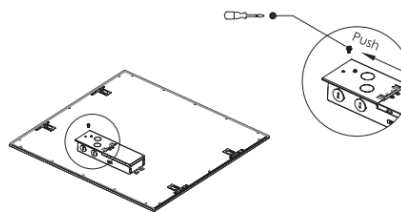

Figure 1
2. Locate fixture junction box cover and remove it using flat head screw driver (Fig. 1)